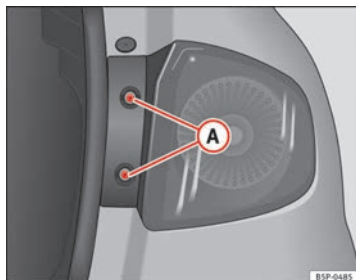

Fig. 189 Side lights and brake lights
- Remove the bolts ⇒ Fig. 189 **A**.